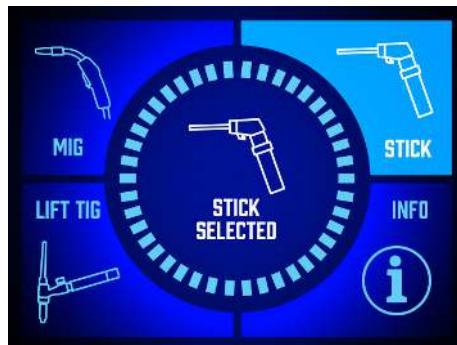

Figure 6-1: Home Screen
- E. In the Home Screen shown in Figure 6-1 select STICK mode by rotating the Control Knob and pressing to select. For Control Knob operation, refer to page 4-2 Item 1.